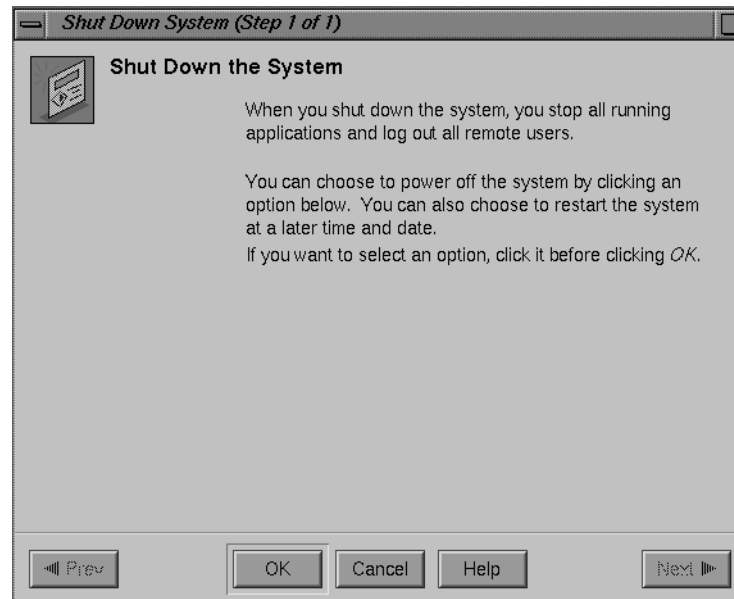
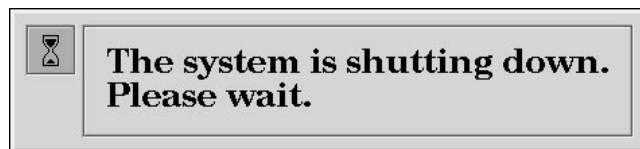

Figure 1-29 Shutting Down the System Caution Notifier
Figure 1-30 System Shutdown Notifier
After a few seconds you see the notifier shown in Figure 1-29.
2. Click OK at the notifier shown in Figure 1-29. The screen clears and you see the notifier shown in Figure 1-30.